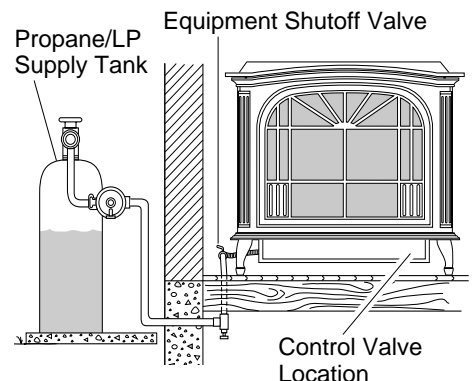

Figure 22 - Checking Gas Joints
3. Check all joints from gas meter to equipment shutoff valve (see Figure 22). Apply mixture of liquid soap and water to gas joints. Bubbles forming show a leak.
4. Check all joints from equipment shutoff valve to control valve (see Figure 22). Apply mixture of liquid soap and water to gas joints. Bubbles forming show a leak.